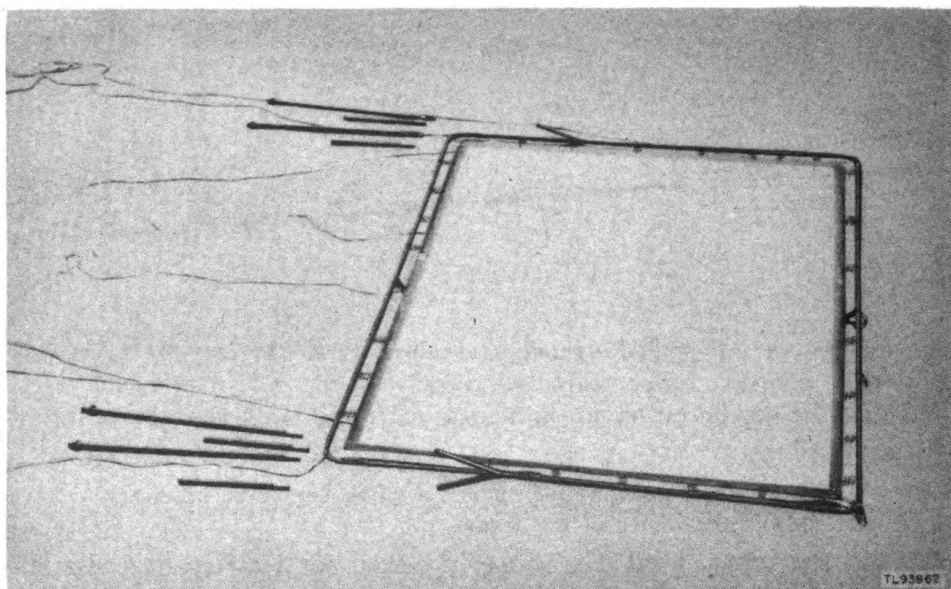
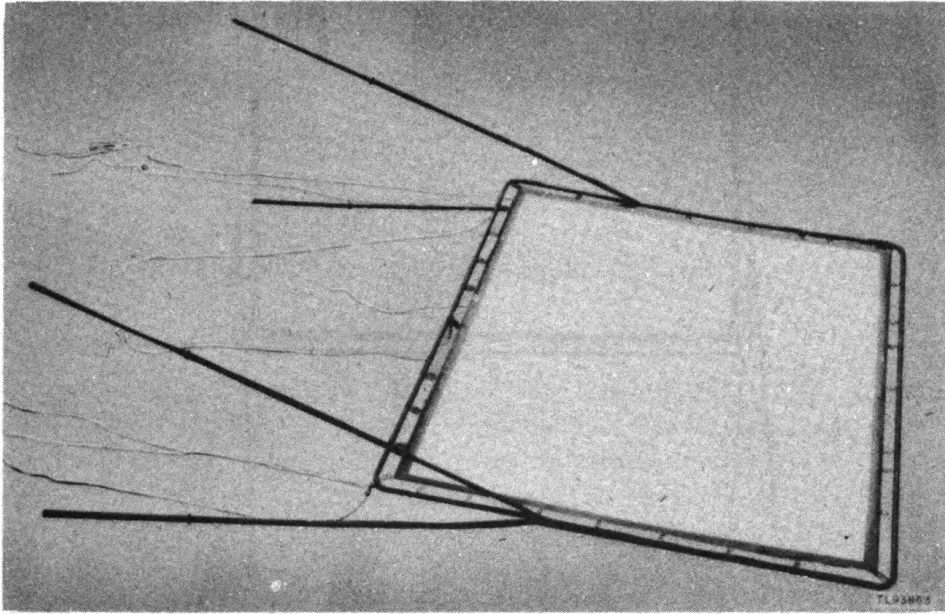

Figure 8. Screen PH-555/GF—screen cloth in place inside frame.
Figure 9. Screen PH-555/GF—leg extension sections and telescoping extension legs jointed to frame.
g. Unfold the screen entirely and connect the spring hooks in the grommets all the way around the edge of the cloth, being sure that the springs are so spaced as to remove ripples from the cloth. (See fig. 8.)
(1) Connect two of the long guy ropes to the ring at the top left corner of the frame, and two to the ring at the top right corner. Connect the remaining long guy rope to the ring in the center of the top of the frame.
(2) Connect one short guy rope to each bottom frame corner, and the third short rope to the ring in the center of the bottom of the frame.
i. Install the four leg extension sections and the four telescoping extension legs. (See fig. 9.)